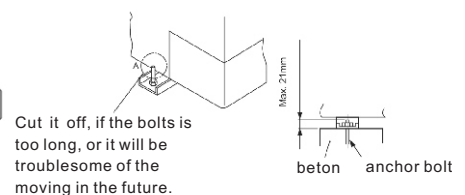

Fig.4.2 The installation of anchor bolts
- (3) Fasten the outdoor unit as the Fig4.2.
- (4) Make sure fasten the outdoor unit tight and horizontal avoid to make noise when the machine oblique Or inclined by strong breeze or earthquake.
- (5) Not drain off water to the public places avoid to slip.